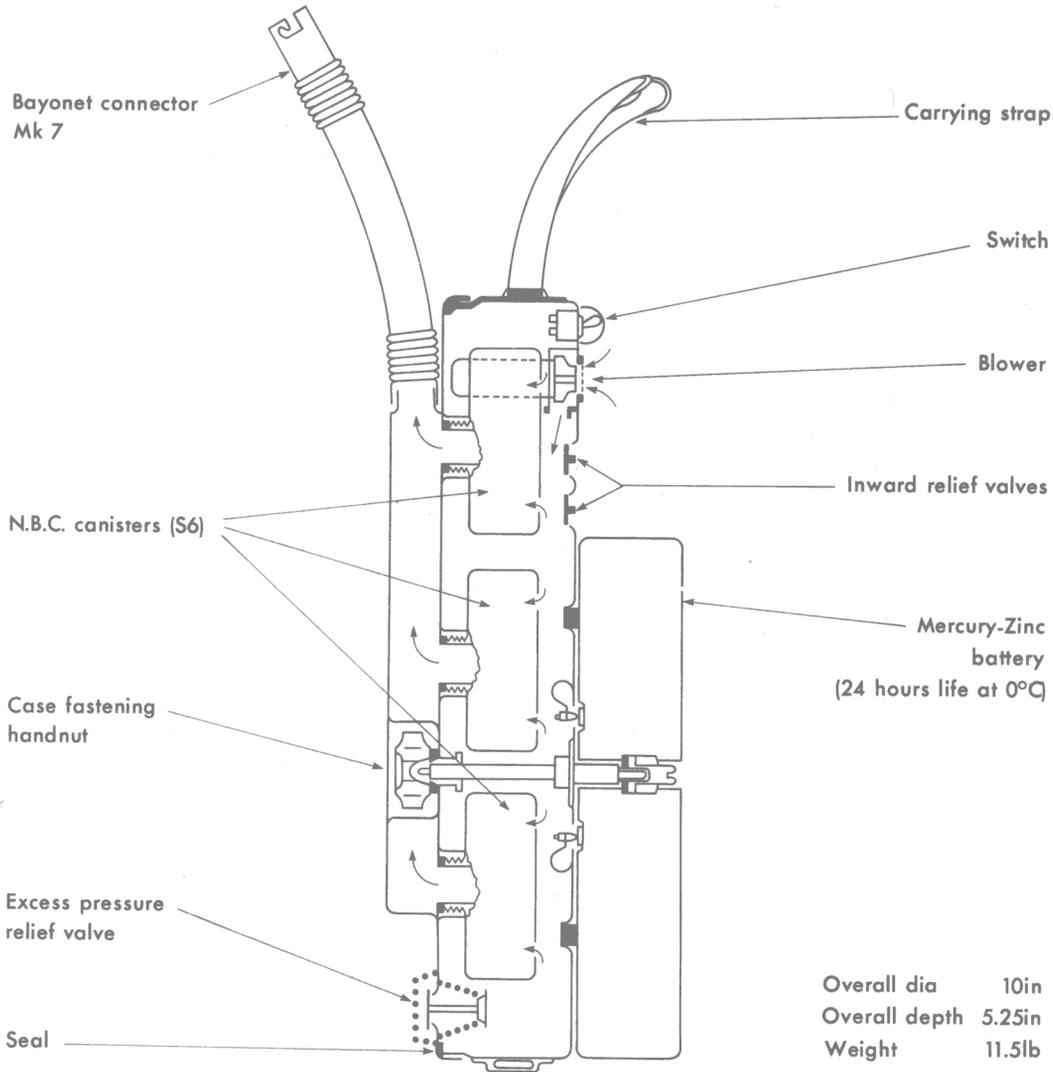

Fig 9. Portable Ventilator NBC Mk 1
b. *Filtered Air Supply.* The Mk 2/2A manifold is supplied with clean filtered air by a Portable Ventilator. The Portable Ventilator NBC Mk 1 (Fig 9) is battery powered and incorporates three standard filter canisters (Canisters NBC S6 No 2 Mk 1) arranged in parallel. Later models of the ventilator will include a facility to